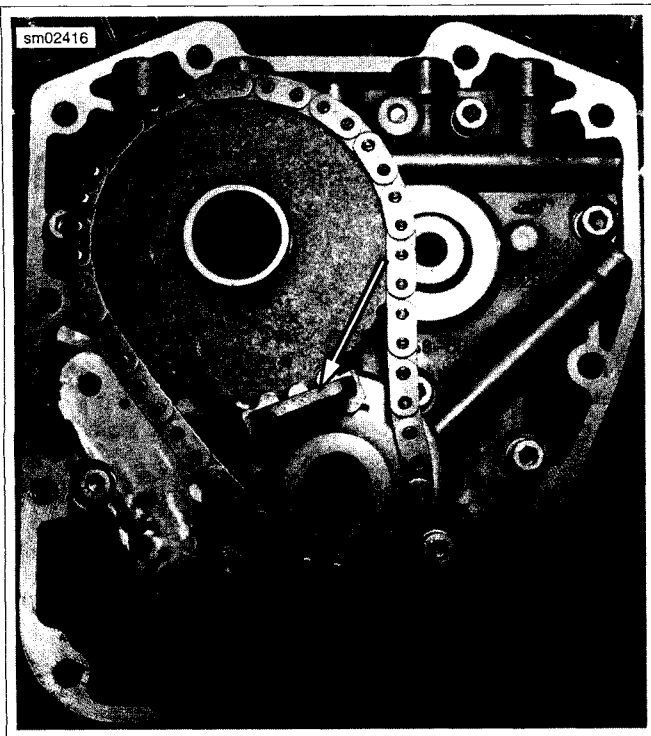

Figure 3-80. Camshaft Locking Tool
- c. See Figure 3-80. To prevent rotation, position the CRANKSHAFT/CAMSHAFT SPROCKET LOCKING TOOL (Part No. HD-47941) between the crank and primary cam sprockets. The handle of the tool is stamped "Crank" and "Cam" to verify proper orientation. Tighten the crank and primary cam sprocket flange bolts to 15 ft-lbs (20.3 Nm). Remove the sprocket locking tool.